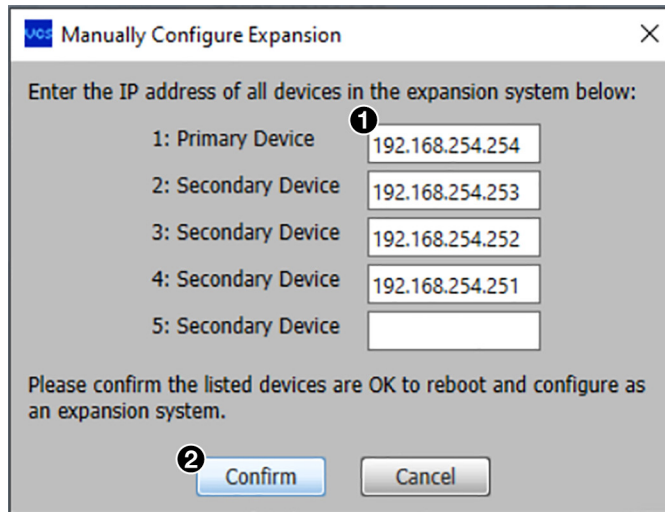

Figure 84. Manually Configure Expansion Screen
3. On the **Manually Configure Expansion** screen, enter the IP addresses of the devices in the expansion system. Be sure to enter the addresses in the order the devices are connected in the chain, with the primary device address in the top (first) field (see figure 84, ①).